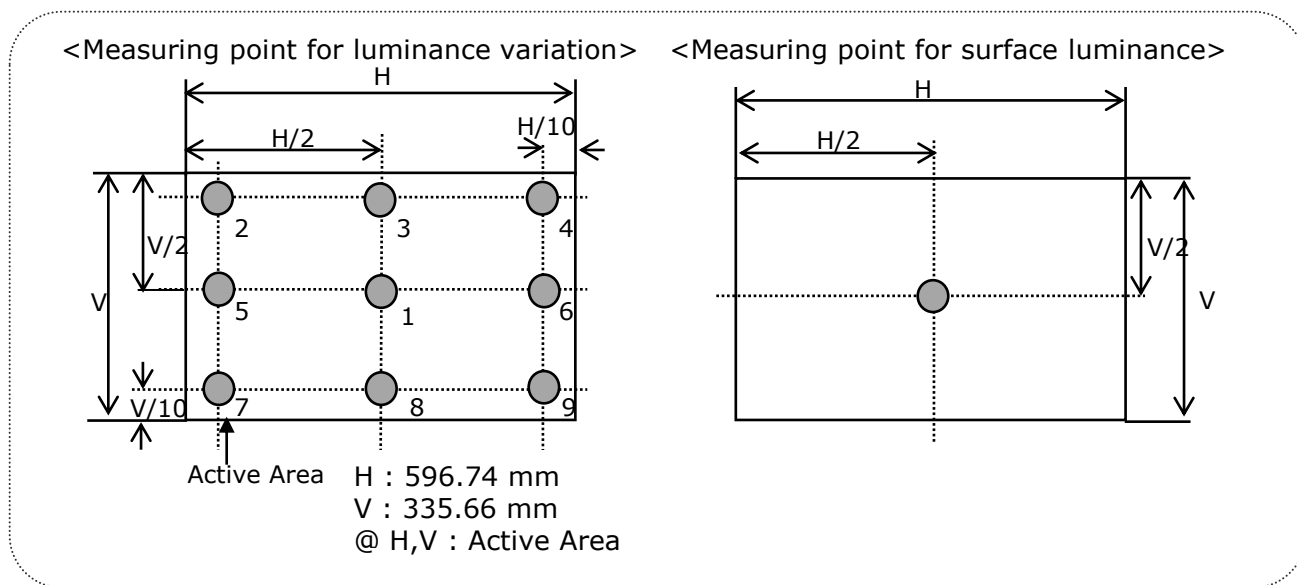

FIG. 5 Measure Point for Luminance
2. Surface luminance(L_{WH}) is luminance value at 1 point across the LCD surface 50cm from the surface with all pixels displaying white. For more information see FIG 5.
For more information see FIG 5.
4. Response time is the time required for the display to transition from black to white (Rise Time, Tr_R) and from white to black (Decay Time, Tr_D). For additional information see FIG 5.